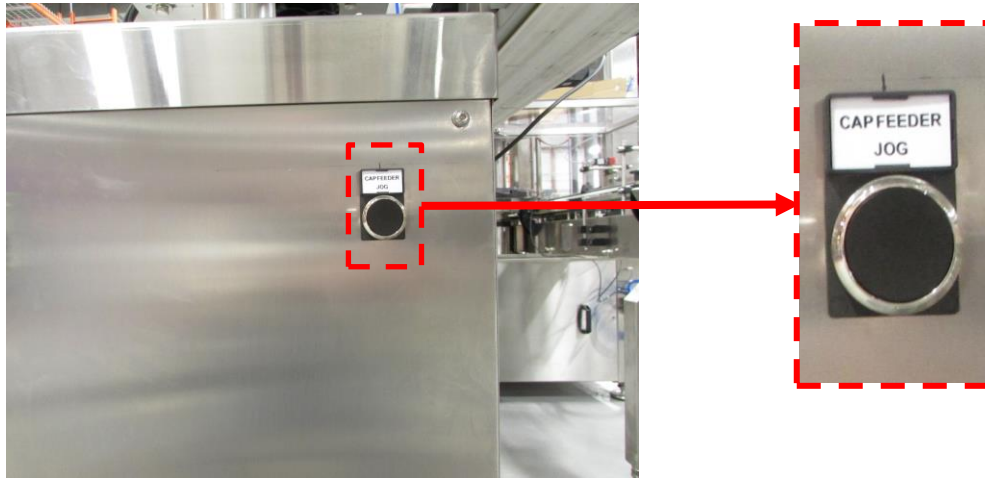

Figure 12-22 Caps Feeder Jog Button
4. Unlatch the Star Wheel sections and remove them. Jog the Feeder as needed (Figure 12-22) to clear any section at the Tank's Outfeed.
8. Line-up the new Star Wheel Sections with their guiding pins and install them. Jog the Feeder as needed (Figure 12-22).
11. Jog the Feeder (Figure 12-22) to ensure caps are exiting the Feeder's Tank into the Caps Rail.